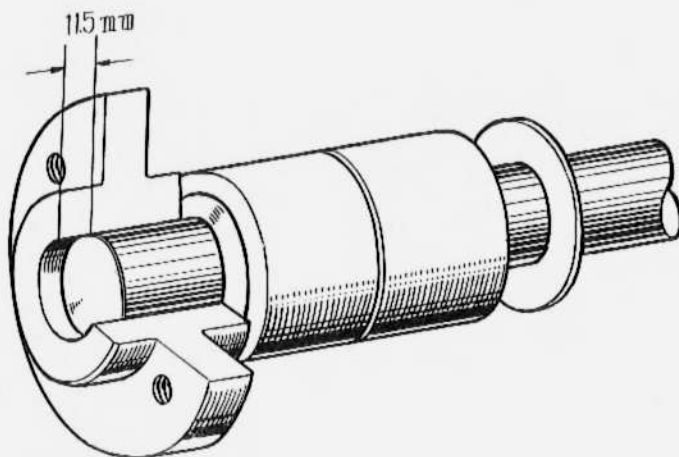

Figure 164—Installing Pulley Seat to Shaft
(1) If pulley seat is removed, install pulley seat to shaft and bearing assembly using an arbor press. Force in pulley seat until seat face is within 11.5 mm to end of shaft (Fig. 164).